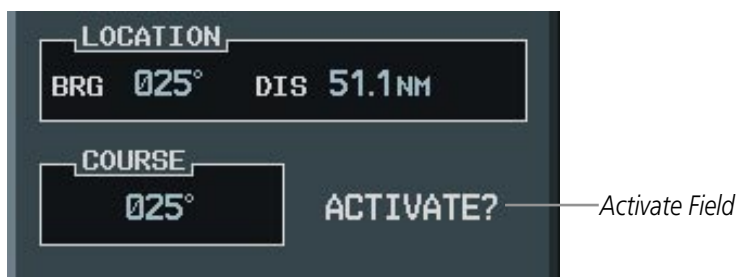

Figure 5-23 Activate Field
- 3) Press the **ENT** Key to confirm the identifier. The ‘Activate?’ field is highlighted (Figure 5-23).